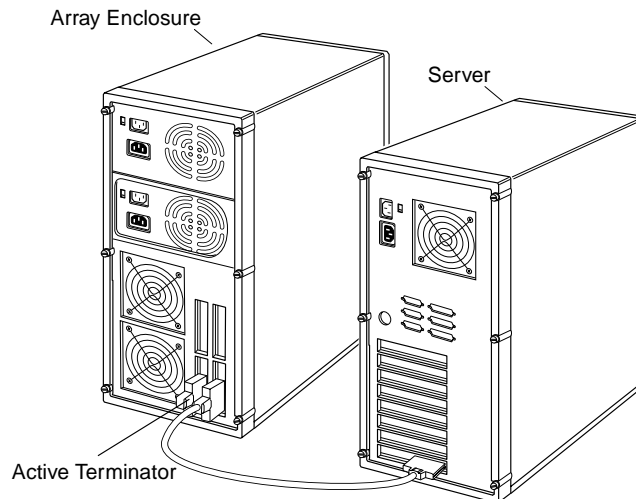

Figure 2-10. A Typical Array Enclosure Setup
To help you conveniently manage your SCSI storage subsystems, a variety of external array enclosures are available from different manufacturers. Figure 2-10 shows a typical setup between the array enclosure and the server. To install your SCSI devices in these enclosures, refer to the enclosure's documentation. The following information is provided to help you properly connect your enclosure to the server: (See Appendix E, *Listing of Vendors* for a list of popular array storage enclosure and disk drive manufacturers.)
- Ideally, the array enclosure itself should provide termination capability, either on the SCSI backplane or with an attachable active terminator, as shown in Figure 2-10, and you should disable termination on all the drives in the enclosure. If you terminate the SCSI bus by enabling termination on a drive, you may run into problems if you have to replace that drive and you then forget to terminate the replacement drive.